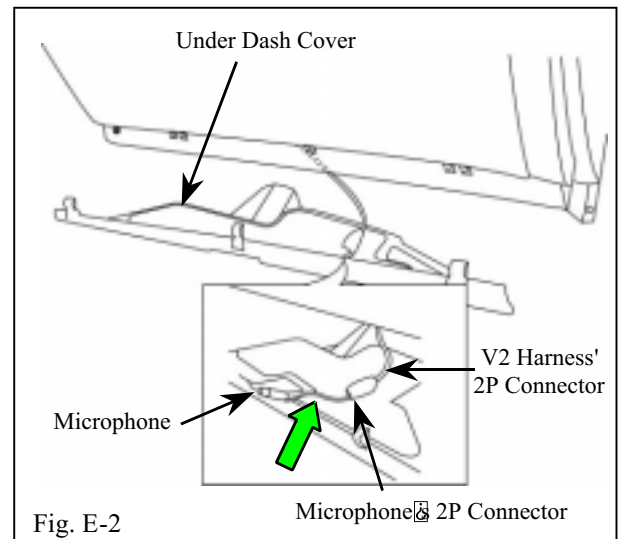

Fig. E-2
- 3. Refit the glove box assembly. (Fig. E 2)
- 4. Plug in the microphone's 2P connector to the V2 harness' 2P connector. (Fig. E-2)